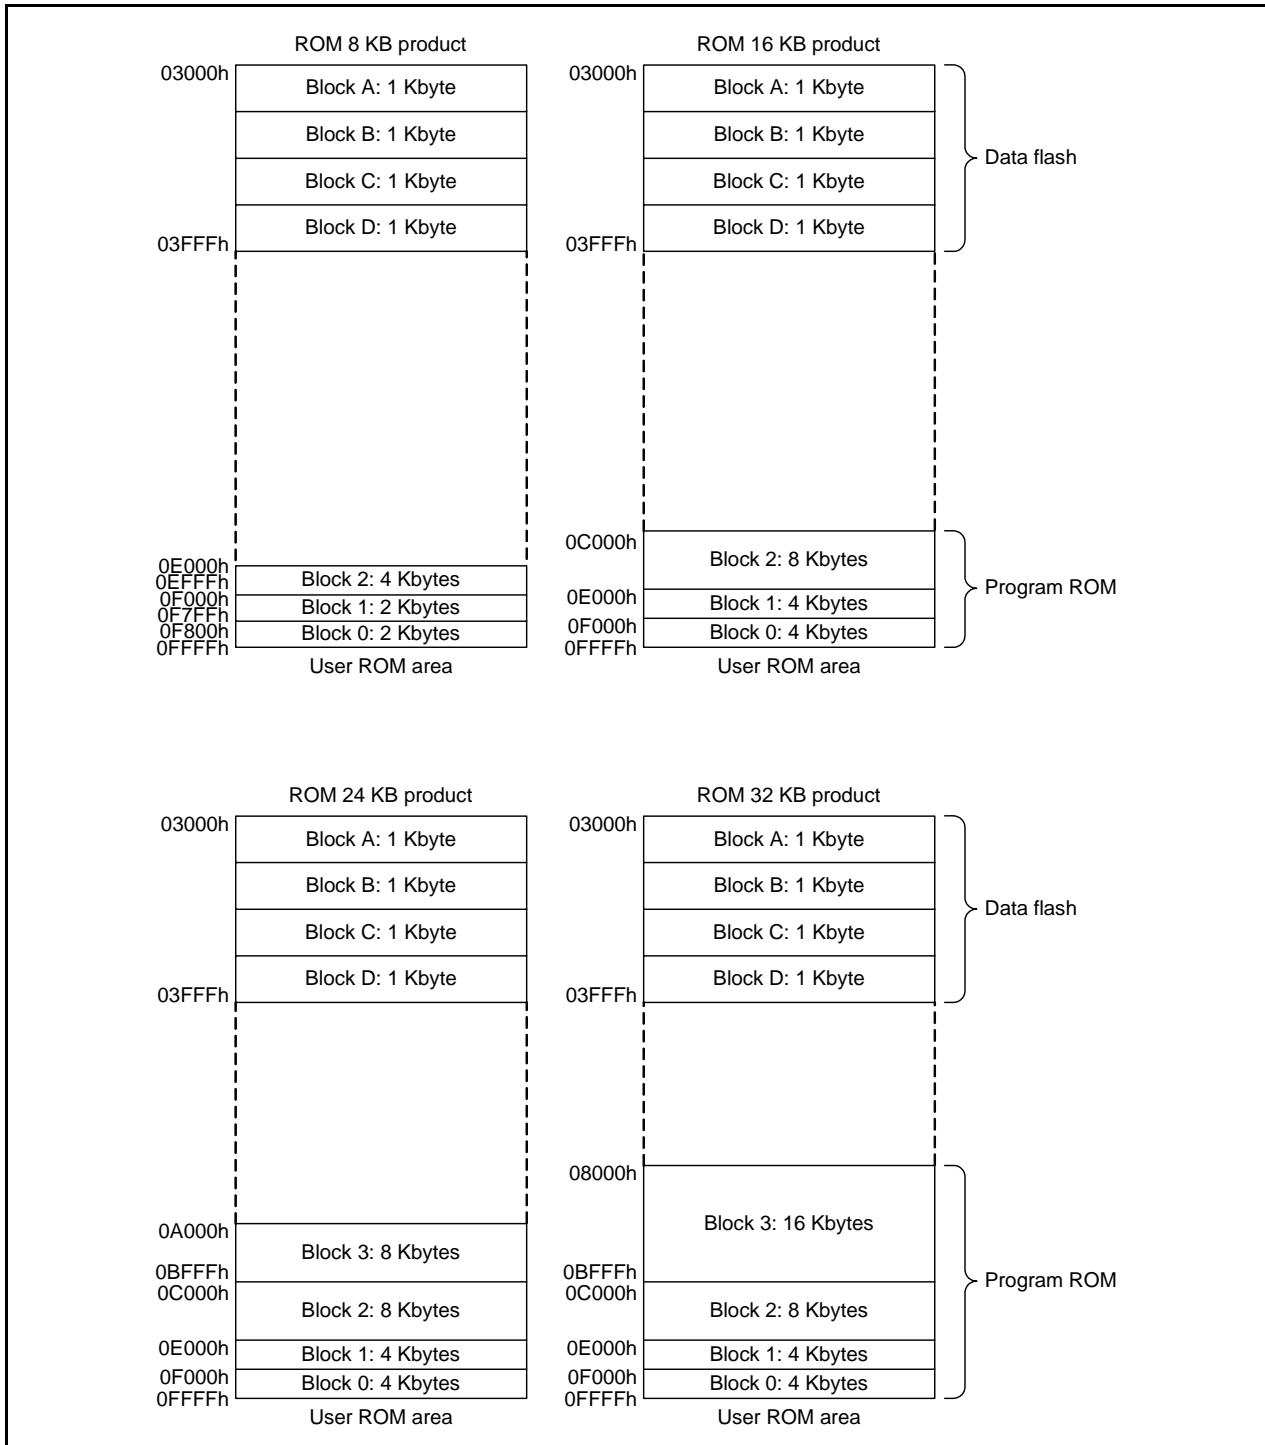

Figure 31.1 R8C/3JC Group Flash Memory Block Diagram
- The number of blocks and block division vary with the MCU. Refer to **Figure 31.1 R8C/3JC Group Flash Memory Block Diagram** for details.
Figure 31.1 shows the R8C/3JC Group Flash Memory Block Diagram.